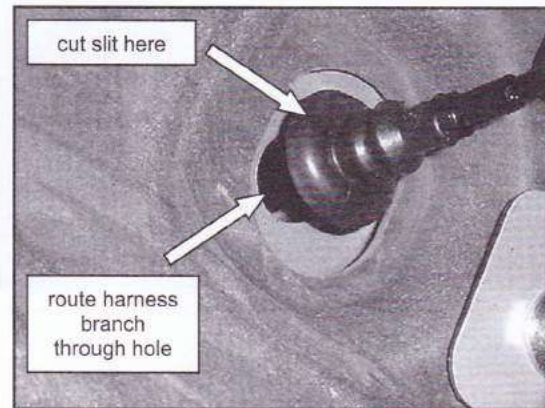

figure 10
13. Remove grommet from firewall and cut a slit through the side of grommet (refer to figure 10).